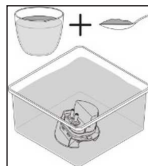
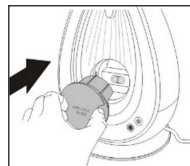

Abb. 2
Abb. 3
- Prepare a suitable container, pour 500 ml of water into it, dilute a tablespoon of table salt in the water, put the filter (10) into the prepared solution (Fig. 2).
- Keep the filter (10) in the solution for at least 2 hours. After that take the filter (10) out, rinse it with water and wipe the filter surface with dry cloth or a paper towel.
- Install the filter (10) back to its place (Fig. 3).